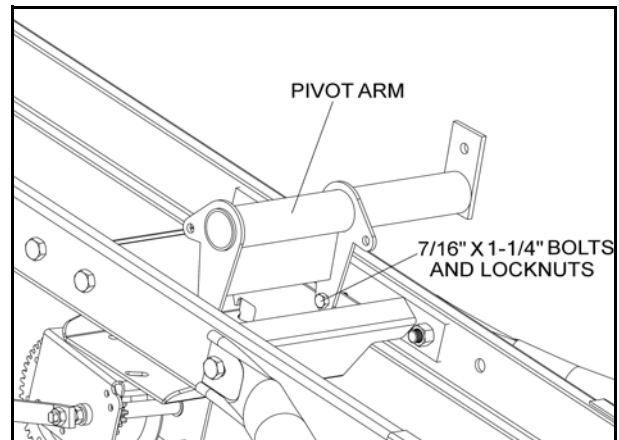

Figure 3.27
1. Attach pivot arm to winch mount using two 7/16" x 1-1/4" bolts and locknuts as shown in Figure 3.27. Do not over-tighten bolts; they should be loose enough to allow pivot arm to move freely.